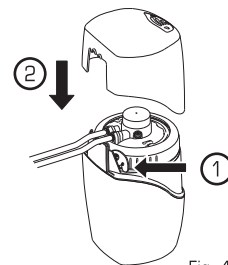

Fig. 47
7. **Store** the removal tool for future use ①. **Place** the Top Shroud onto Base ② (Fig. 47).